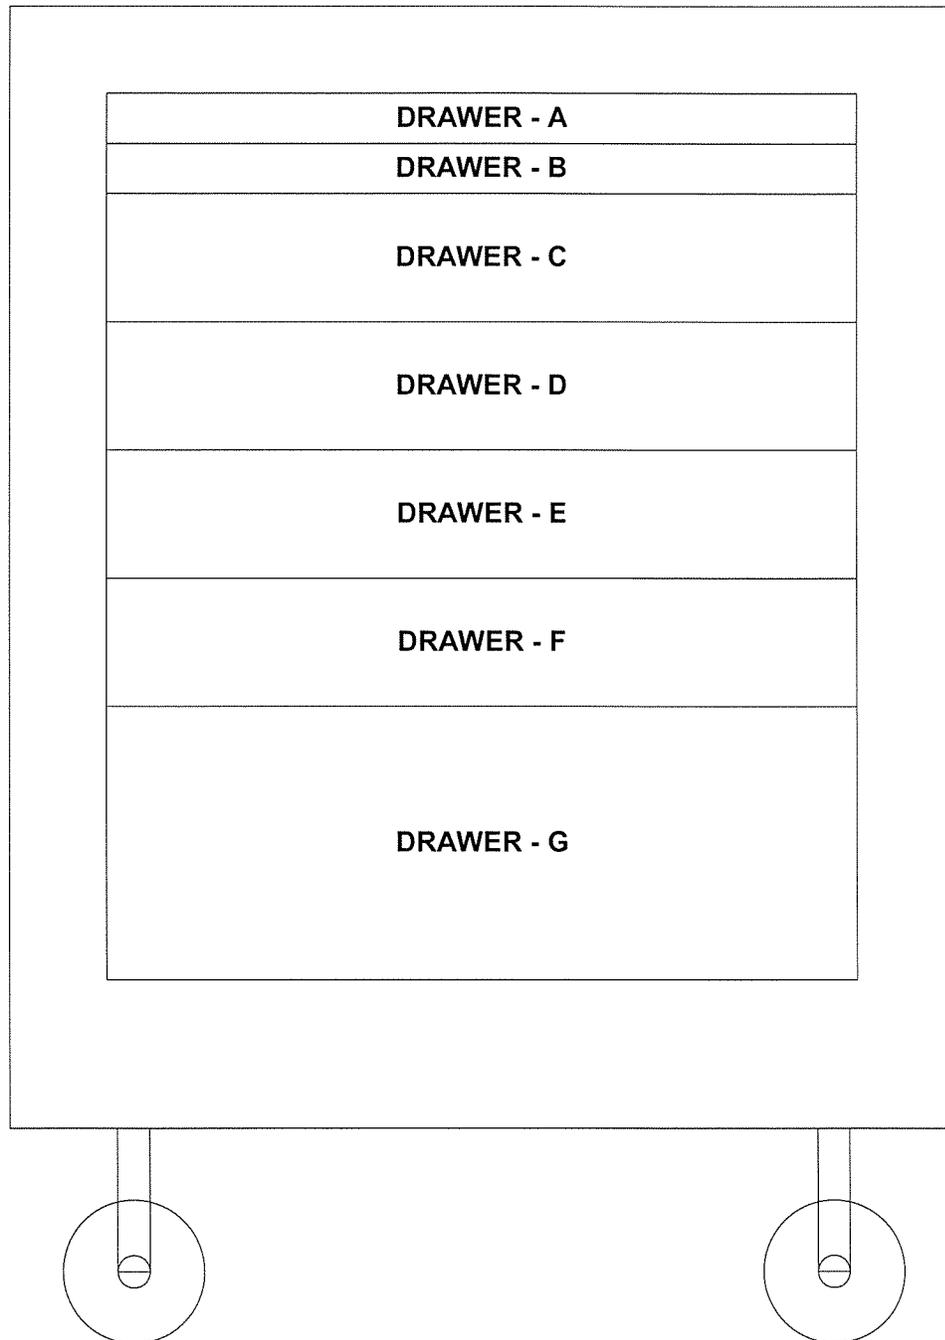

Figure 4-7. Rollaround, Seven Drawer, KRA2007(55719)
- h. Rollaround, Seven Drawer KRA2007 (55719), shown in Figure 4-7, has drawers approximately 21 by 18 inches. The top two drawers are 1-13/32 inches high; the next four drawers are 3-19/32 inches high, and the bottom drawer is 7-21/32 inches high. The outside dimensions are approximately 27 by 20 by 38 inches. This box will hold approximately 220 tools.